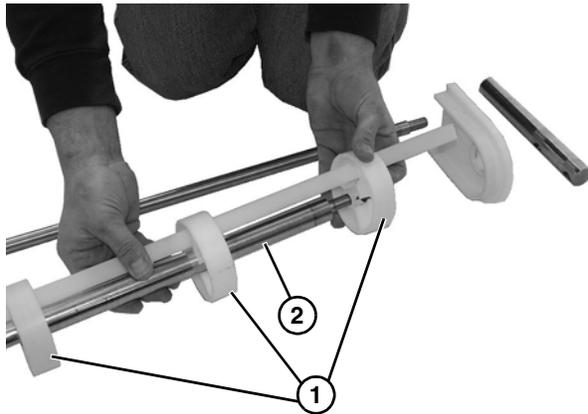

Figure 65
- Slide all the idler pucks (Figure 65, item 1) along with alignment bar onto idler shaft (Figure 65, item 2).